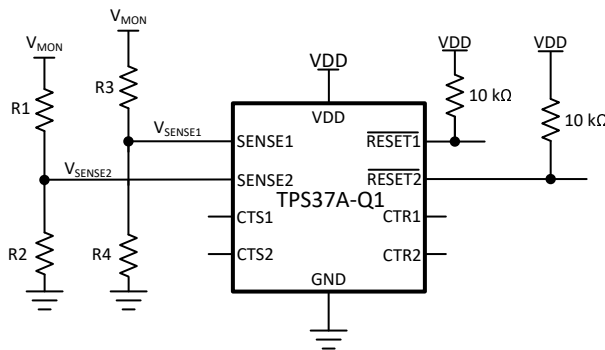

图 10-1. Adjustable Voltage Threshold with External Resistor Dividers
For example, consider a 12 V rail being monitored  $V_{MON}$  for undervoltage (UV) using channel 2 of the TPS37A010122DSKRQ1 variant. Using 方程式 7 and shown in 图 10-1,  $R_1$  is the top resistor of the resistor divider that is between  $V_{MON}$  and  $V_{SENSE2}$ ,  $R_2$  is the bottom resistor that is between  $V_{SENSE2}$  and GND,  $V_{MON}$  is the voltage rail that is being monitored and  $V_{SENSE2}$  is the input threshold voltage. The monitored UV threshold, denoted as  $V_{MON-}$ , where the device will assert a reset signal occurs when  $V_{SENSE2} = V_{IT-(UV)}$  or, for this example,  $V_{MON-} = 10.8V$  which is 90% from 12 V. Using 方程式 7 and assuming  $R_2 = 10k\Omega$ ,  $R_1$  can be calculated shown in 方程式 8 where  $I_{R1}$  is represented in 方程式 9: